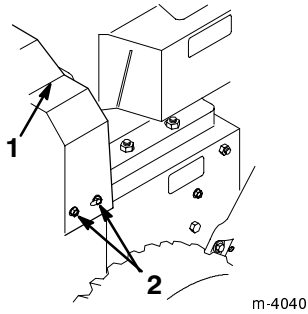

Figure 15
2. Remove the three screws that hold the belt cover in place and set the cover aside (Fig. 15).